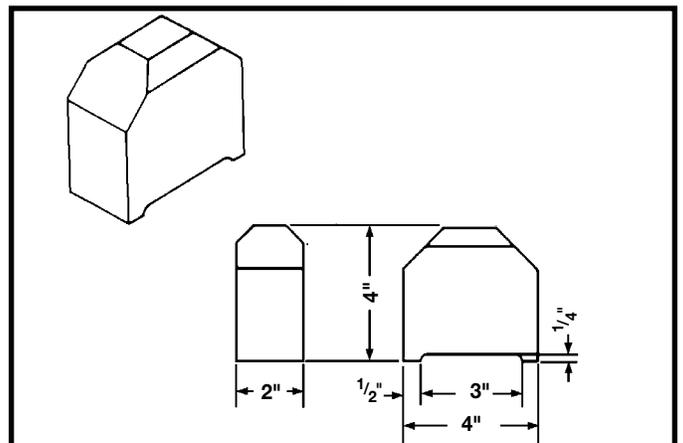

Fig. 36
2. The outfeed roller is adjusted at the factory to be 0.020" below the cutting circle. In order to check and adjust the outfeed roller, you will need a homemade gage block made of hardwood. This gage block can be constructed by following the dimensions shown in Fig. 36. **NOTE: Make sure that the height of the block is exactly 4 "**